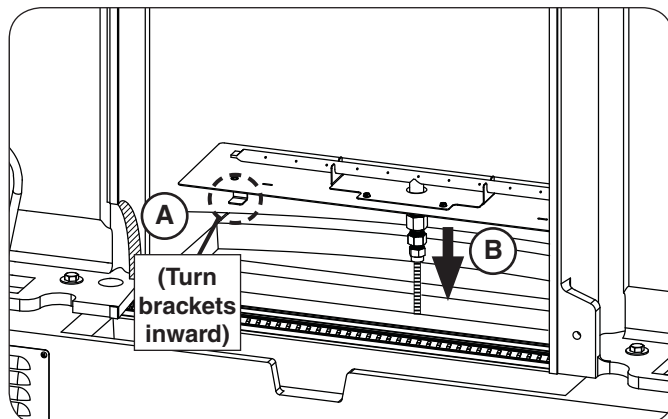

Fig. 20-3 Reinstall burner
1. Ensure that the four burner brackets are turned inward, then insert the burner assembly (see Fig. 20-3, A-B).